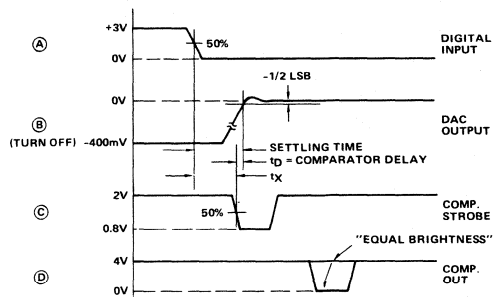

FIGURE 3B.
As shown in Figure 3B, settling time equals  $t_x$  plus the comparator delay ( $t_D = 15$ ns). To measure  $t_x$ ,
- Adjust the  $V_{LSB}$  supply for 50 percent triggering at COMP. STROBE. This is indicated by traces of equal brightness on the oscilloscope display as shown in Figure 3B. Note DVM reading.
- Switch the LSB to Pulse (P).
- Measure  $t_x$  from scope as shown in Figure 3B. Settling time equals  $t_x + t_D$ , i.e.  $t_x + 15$ ns.